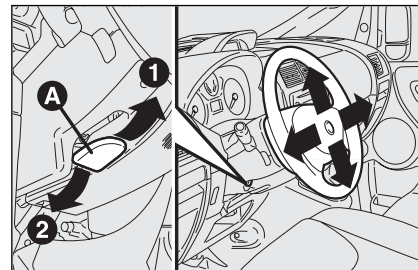

fig. 35
- ☐ release the lever **A**-fig. 35 pushing it forwards (position 2);